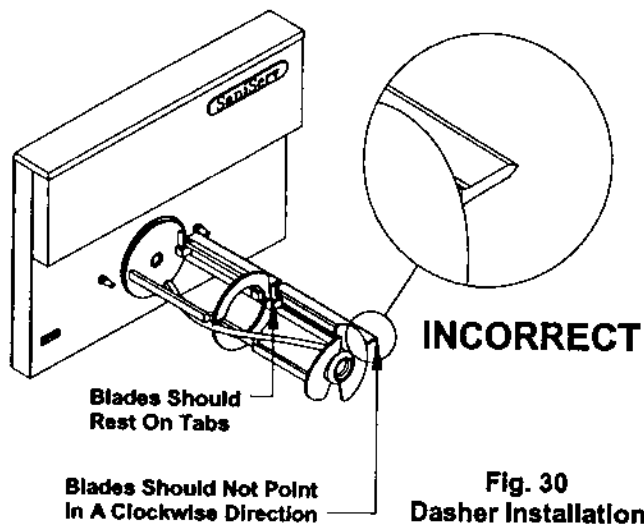

**Fig. 28**
**Note:** Reverse the blades at each cleaning to maintain sharpness. In addition, the blades are equipped with a wear mark (Fig. 28). When the blade is worn to this wear mark, it must be replaced.